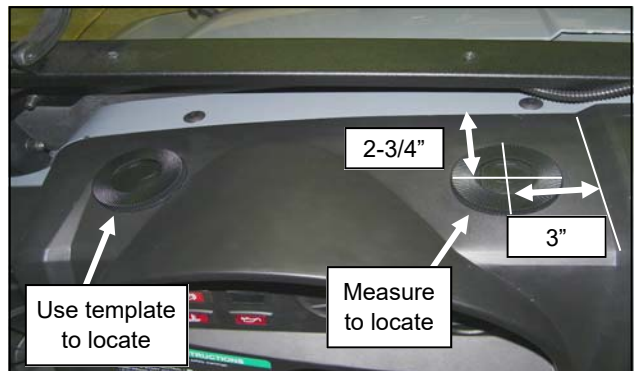

Fig. 2.1
- 2.1 Drill two 2" holes through the driver's side dash, approximately centered to either side of the top of the instrument panel as shown. See figure 2.1. Measure to locate the hole to the right of the steering wheel. Use the template on the next page to locate the hole on the far left of the dash.